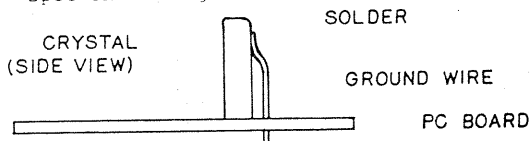

FIG. 2-8
13.( ) Install crystal with solder seal hole at top nearest L7 end. Then tin the opposite end near the top and solder the ground wire to this tinned spot on the crystal. See fig. 2-8.